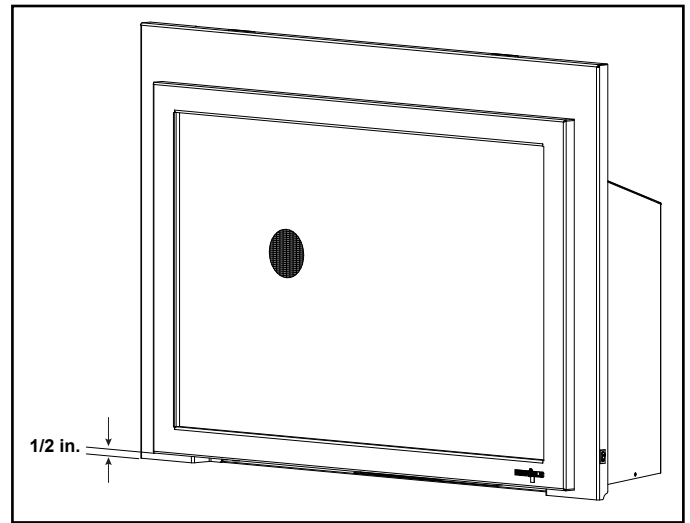

Figure 8.4 Minimum Required 1/2 in. Gap to Bottom of Front
- 1/2 inch gap under the bottom of the front must be maintained. See Figure 8.4.